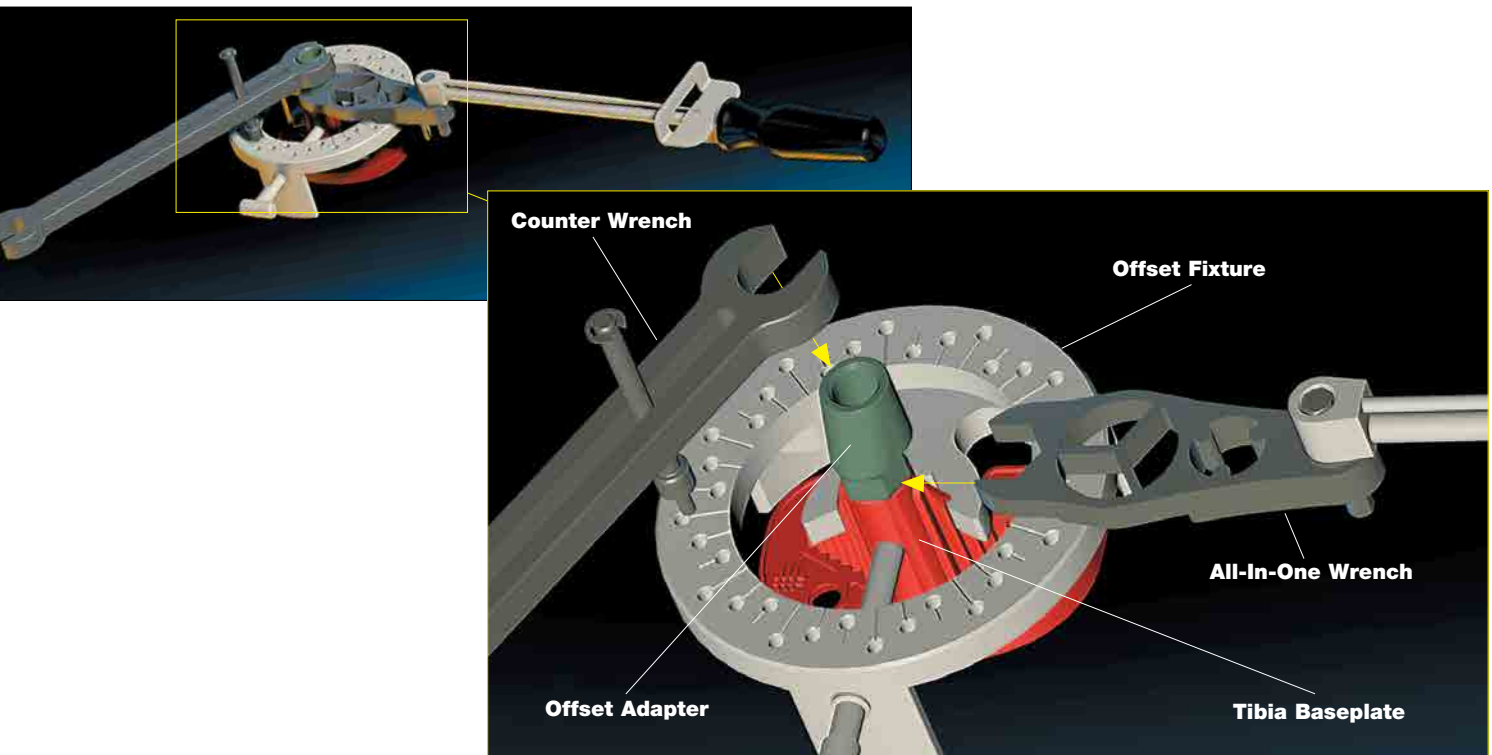

Figure 26
- Lock in place with jam nut wrench. (Pull towards you) Torque to 120-180lbs (not required for trialing) (**Figure 26**)